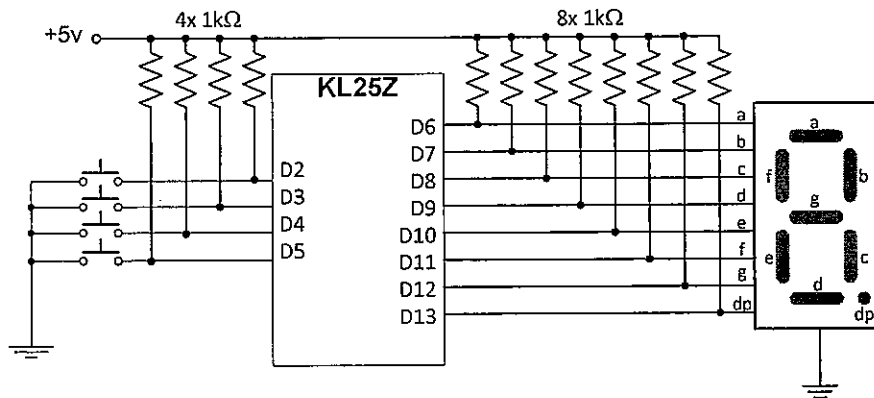

Figure Q3(b)
- Draw a diagram to illustrate the relationship between FOUR (4) different states of a thread in mbed API. [4 marks]
- Briefly discuss any TWO (2) of the states illustrated in Q3(a)(i). [4 marks]
- (b) Write an embedded C program with mbed SDK for the FRDM-KL25Z development board to get the status of the switches (D2 is LSB, D5 is MSB) and display the equivalent decimal digit on the 7-segment display as shown in the Figure Q3(b). For example, when none of the switches is pressed, the 7-segment display should show '0'; when the switches connected to D2 and D4 are pressed, the 7-segment display should show '5'. Refer to Table Q3(b) for the 7-segment codes. [8 marks]